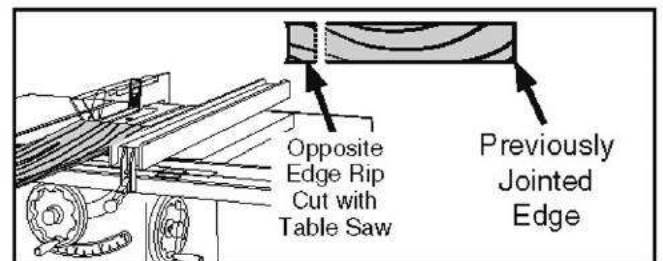

Figure 44. Rip cutting on a table saw.
2. Place jointed edge of the 2x4 against the table saw fence and rip cut just enough off the opposite side to square up the two edges of the 2x4, as shown in **Figure 44**.